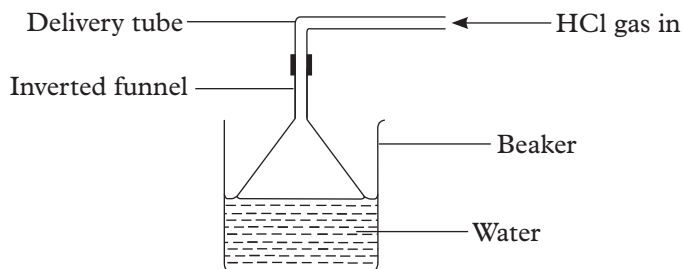

Fig 4.11: Dissolving hydrogen chloride gas in water
4. a) Direct dry hydrogen chloride gas through the inverted funnel to a beaker of water as shown in fig 4.11.